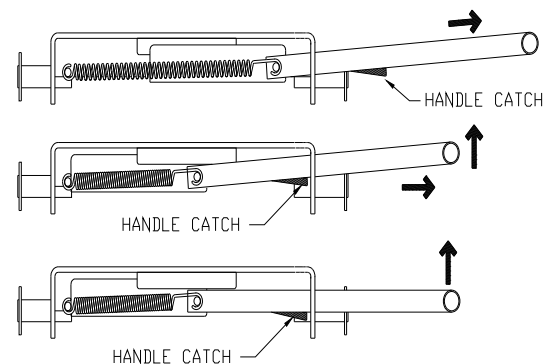

Figure 6
- 1) When the **Plate** (1) is in the upright position, gravity keeps the **Release Handle** in the lower position and the **Handle Catch** is then located on the inside of the outer casing of the **Plate** (1). See the third drawing in (Figure 6).
- 2) To open the **Lock Jaw Assembly**, lift the **Release Handle** and pull it toward you until the Lock Catch engages the **Lock Jaw Assembly** (Figure 6).
- 3) As the **King Pin** moves into the **Plate** (1), it will contact the **Lock Lever** forcing the **Lock Catch** to disengage the **Lock Jaw Assembly**, allowing the **Main Spring** to pull the **Lock Bar** to the closed position. The gear teeth of the **Lock Bar** engages the gear teeth of the **Lock Jaw Assembly** and causes it to close behind the **King Pin**.
- 4) When the **Lock Jaw Assembly** is completely closed, the **Release Handle** will also be fully retracted into the **Plate** (1) and the **Handle Catch** will fall down behind the outer casing of the **Plate** (1). In this position the **King Pin** is locked in the **5th Wheel Plate** ready for travel.